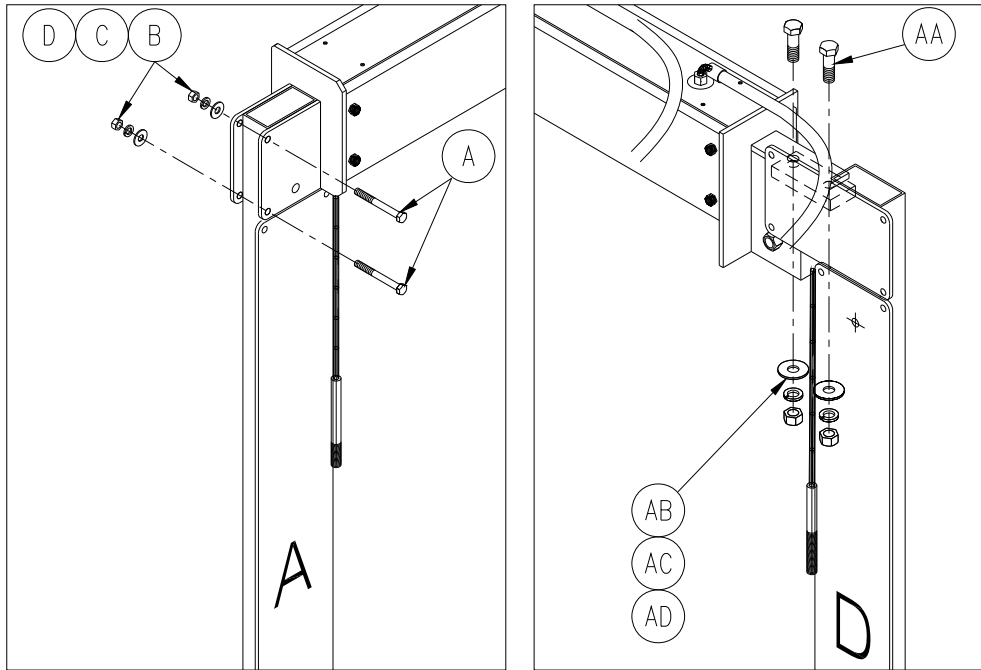

Figure 3-9
1. Refer to Figure 3-9. Install hydraulic cylinder assembly to vertical leg “A” and “D”. Use fasteners detail A thru H and install fasteners detail AA, AB, AC & AD.